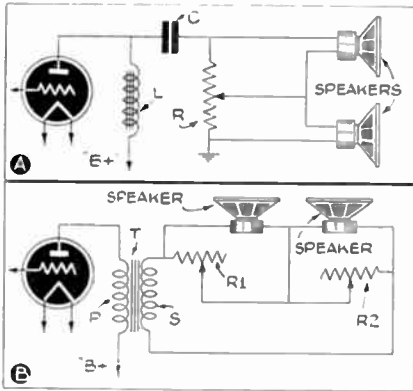

Fig. 22
(A) The circuits of Fig. 22 may be followed to create the illusion of binaural reception. In A, a 100,000-ohm potentiometer is shown; other sizes may be used for experiment. If lower resistance is used, there will be a proportionate drop in the output volume. The setting of the potentiometer arm will depend upon the reproducers and the location of the listener; the listener